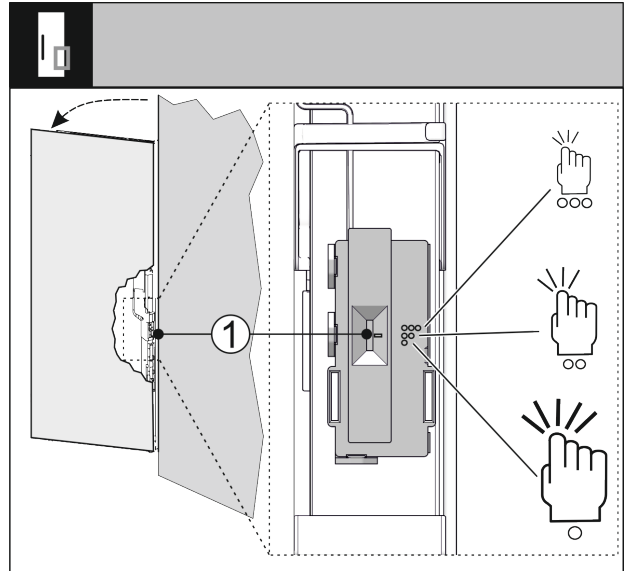

Fig. 71
You can use a switch Fig. 71 (1) to adjust the sensitivity of the knocking sensor. The switch is on the bottom third of the door on the hinge side.
- ▶ Move the switch Fig. 71 (1) to the required switch position.